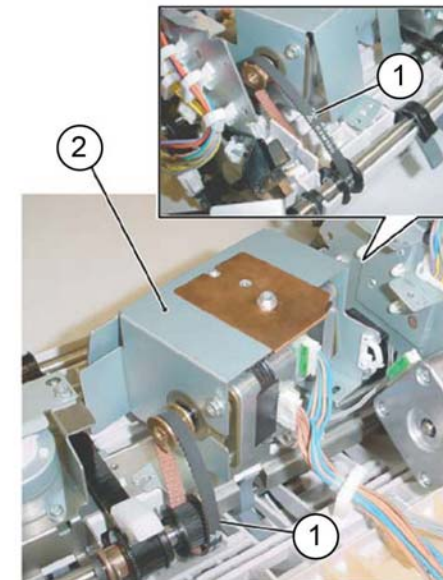

Figure 5 Eject/set clamp motor assembly removal
10. Remove the eject/set clamp motor assembly, Figure 5:
- a. Remove both belts (1) from the Pulleys.
- b. Remove the eject/set clamp motor assembly (2).